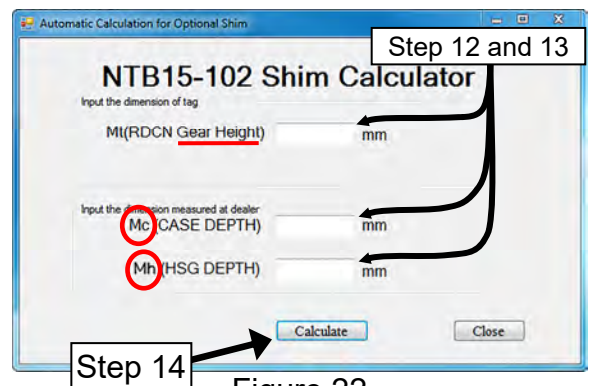

Figure 22
12. With the calculation tool displayed, input the measurement values in the correct boxes from page 13, steps 9 and 10 (see Figure 22).
13. Input the height measurement of the reduction gear assembly (see Figure 22).
14. Click on **Calculate** (see Figure 22).